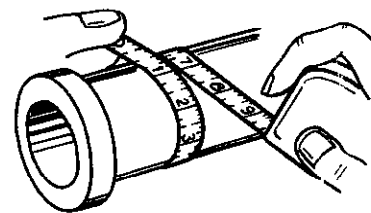

Fig. 2-12 Measuring a circumference with a push-pull rule.
1. Pull the tape out a short distance. Hold the end close to the cylinder as shown in figure 2-12.
3. Note which graduations are in line where the tape crosses at the starting point. If the 1-inch and 7-inch graduations are in line (figure 2-12), the circumference is found by subtracting the 1-inch reading from the 7-inch reading. This leaves 6 inches as the circumference measurement.